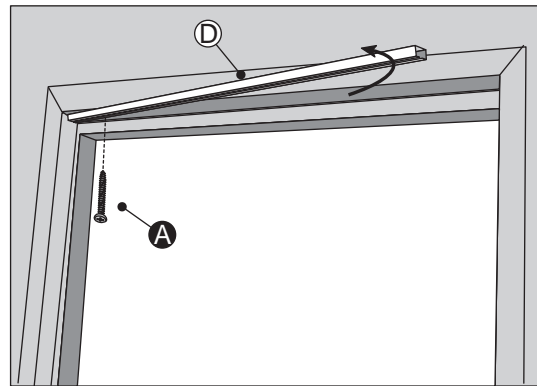

fig. 9
2. Use Screw ② to fix one end of the Top Track ①. Then pivot the Top Track outward.
**See fig. 9.**